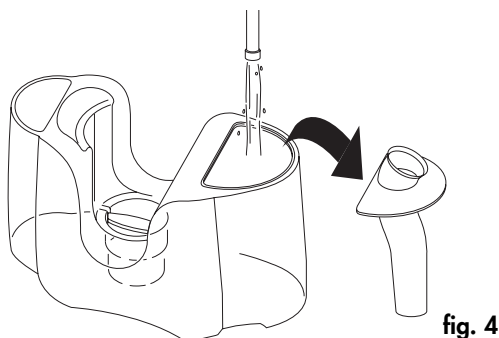

fig. 4
- To use the appliance as a **vacuum cleaner**, a minimum of 2.5 litres of water should be poured into the tank; do not exceed the maximum level of 4 litres marked on the tank. The suction conveyor **G** can be removed to simplify filling the tank, (Fig. 4).